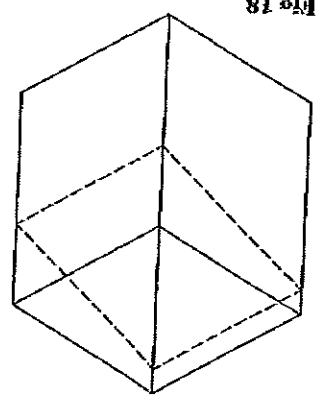

Fig 18
1. Mark a line on the side of the Cathedral Ceiling Support Box to correspond to the line of the roof pitch, as shown in Figure 18. Allow for the Support Box to provide below the low side of the finished ceiling a minimum of 2 inches.